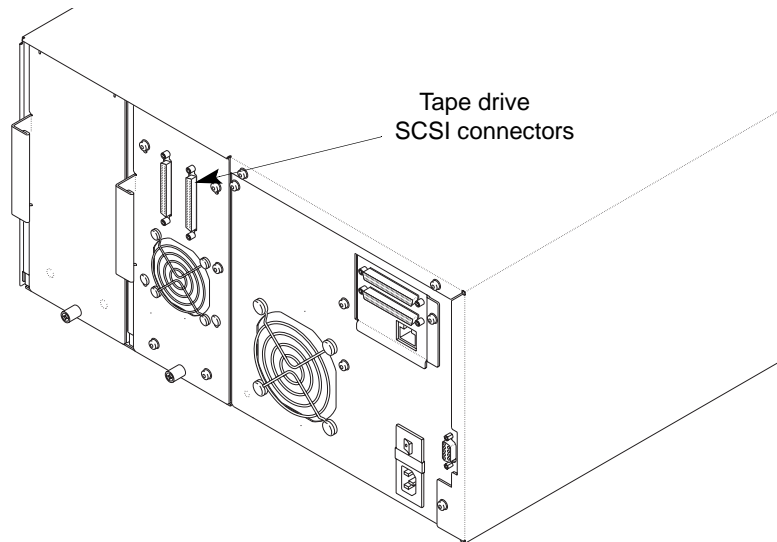

Figure 7-2 Tape drive SCSI connectors on the 221L library
1. Disconnect the cable(s) and terminator, if present, from the back of the tape drive you are replacing. The connectors for the tape drives are accessible from the back panel (see Figure 7-2).